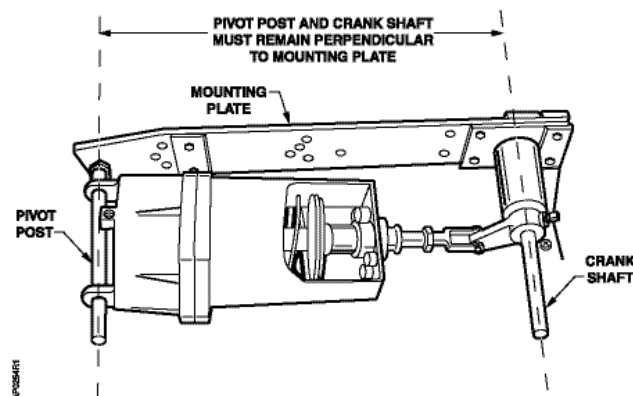

Figure 4. Perpendicular Mounting.
It is important to use the **X** and **Y** dimensions from Table 2 to position the actuator to ensure that the crank is approximately perpendicular to the actuator shaft at half its stroke (see Figure 4). This will prevent the linkage from scissoring or locking up.
3. Thread Clevis 331-801 on to actuator shaft and tighten against locknut. Assemble Linkage Kit 331-958 to actuator assembly (see Figure 4). The linkage is assembled so that the damper shaft will rotate counterclockwise as actuator pressure increases. This is a typical normally closed damper installation.